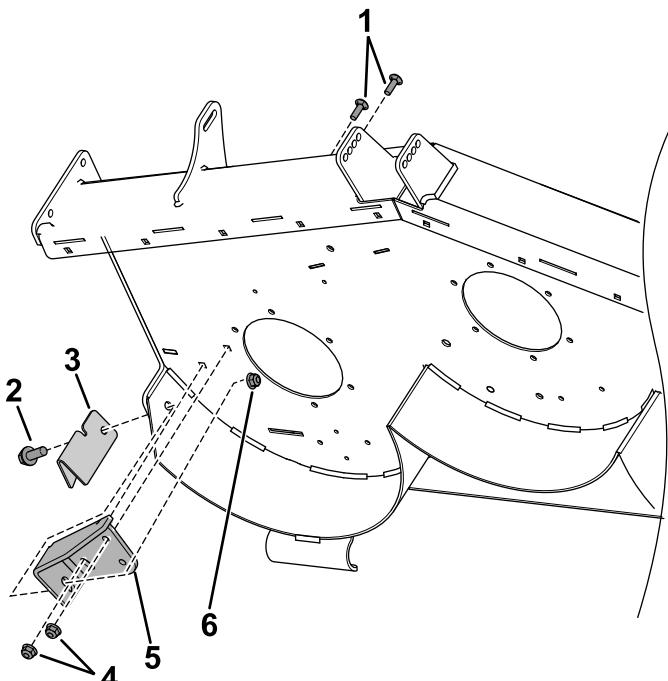

Рисунок 10
3. **For 48-inch and 54-inch decks:** Install the rounded-edge-discharge baffle and bagger guard with appropriate hardware as shown in Рисунок 10.